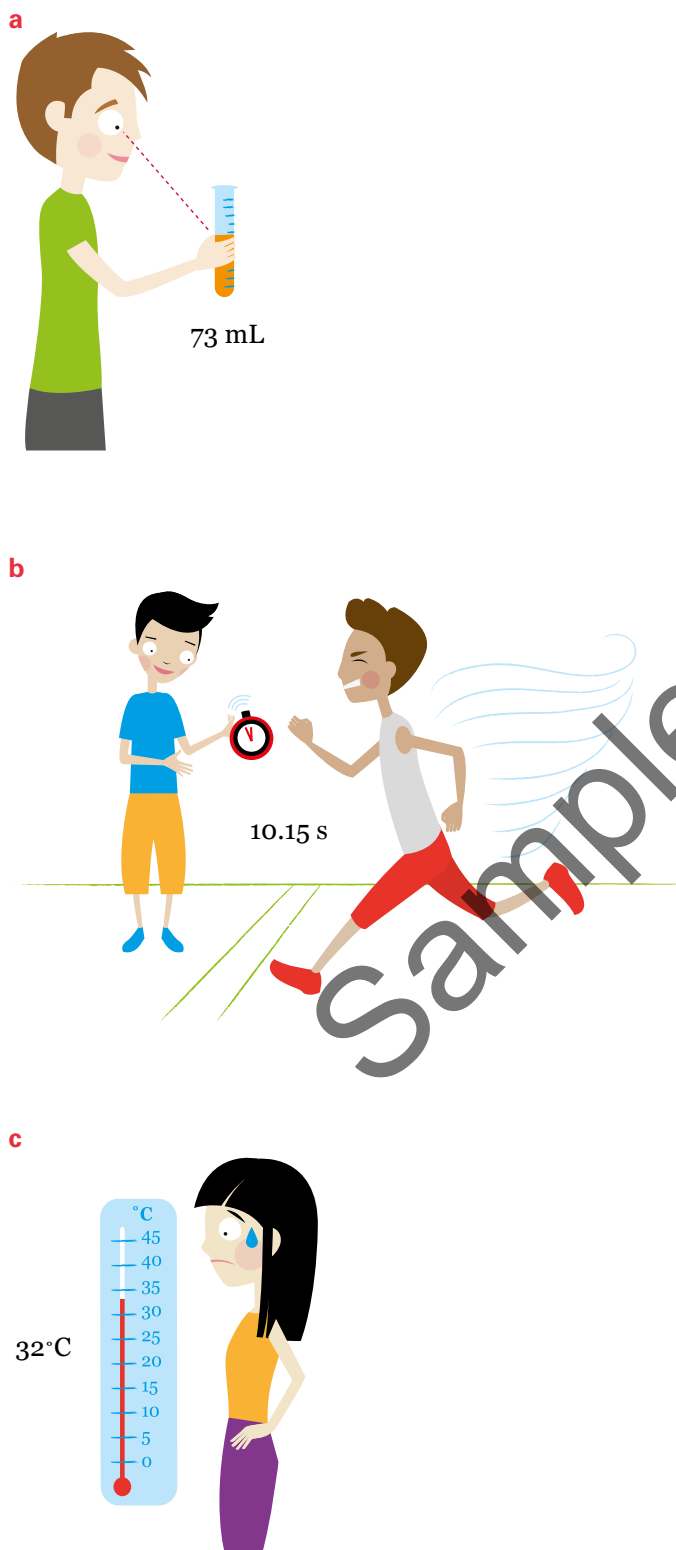

FIGURE 1.1.10
- 14 Identify the types of error shown in Figure 1.1.10.